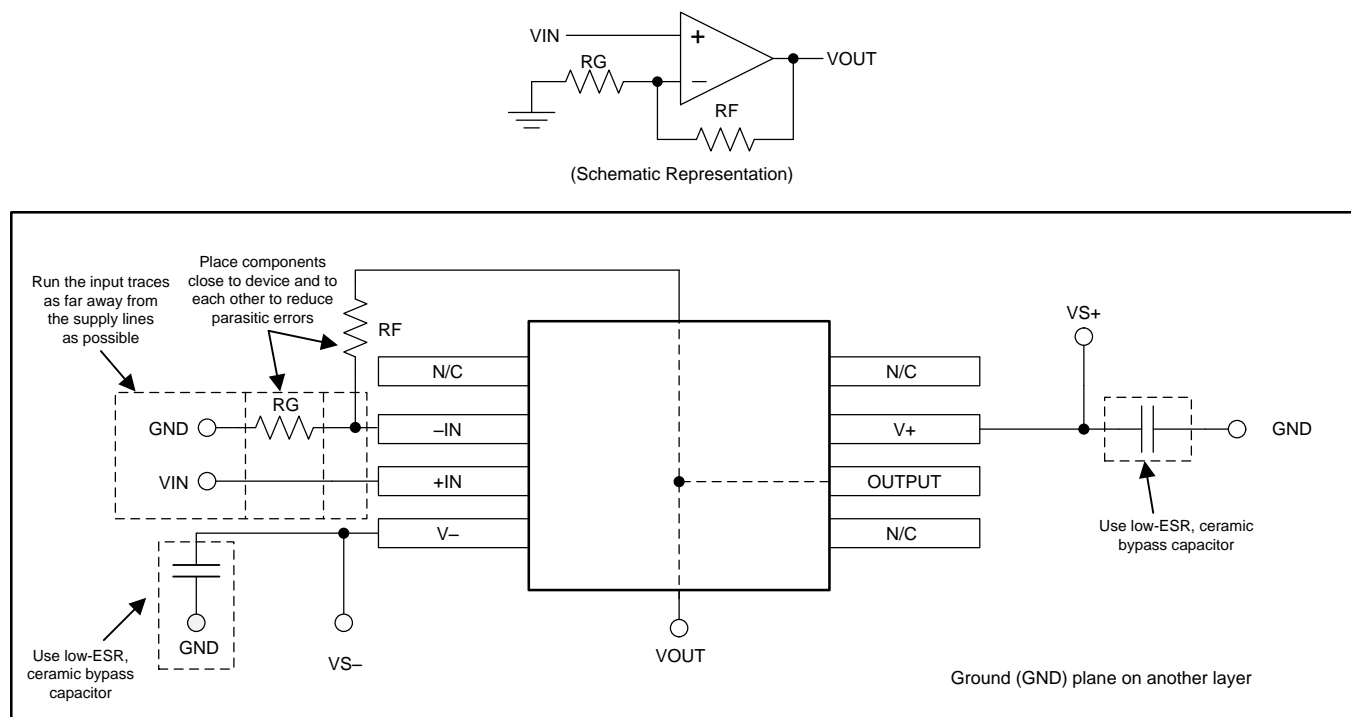

Figure 44. Operational Amplifier Board Layout for Noninverting Configuration
- Place the external components as close to the device as possible. As shown in Figure 44, keeping RF and RG close to the inverting input minimizes parasitic capacitance.